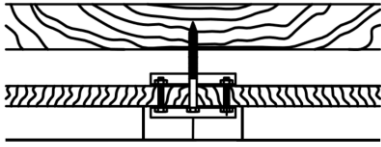

Figure 3
- Adjust to level the header assembly. See Figure 3.